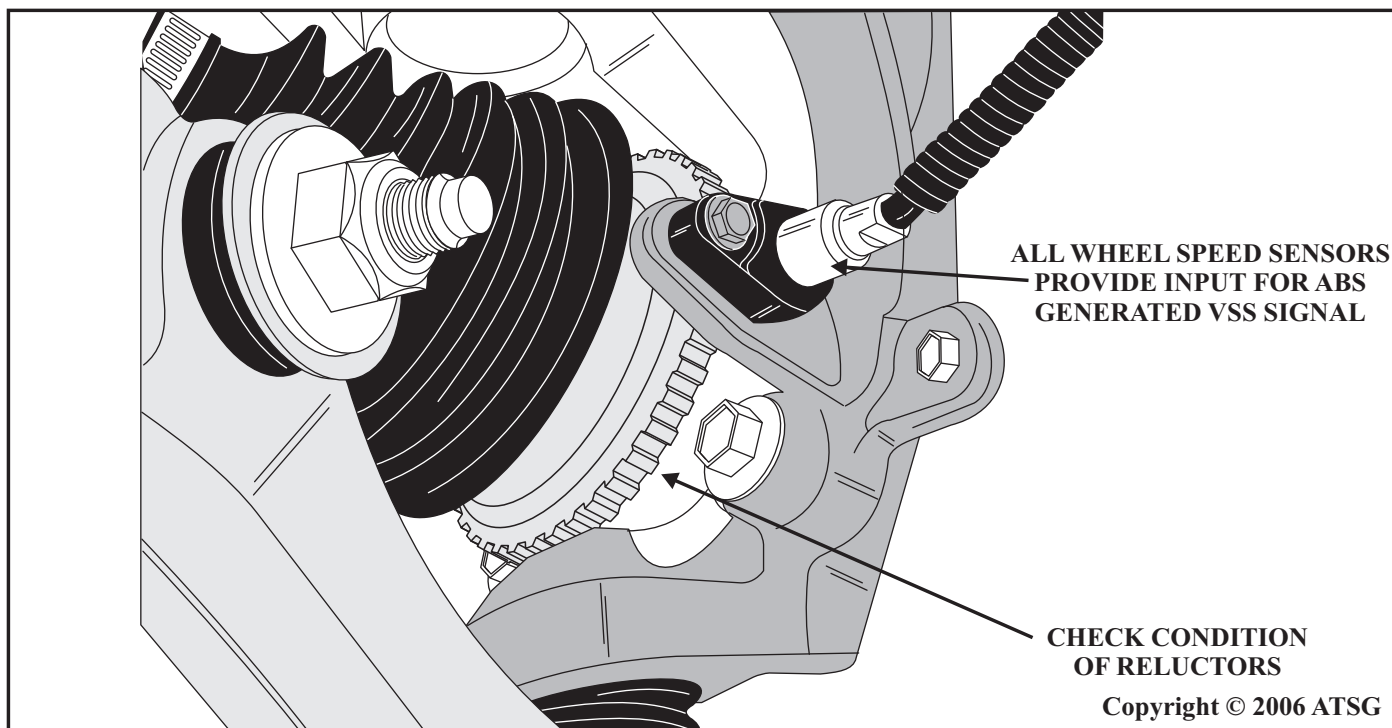

Figure 2
CAUSE: These vehicles obtain the VSS signal from the Antilock Brake Control Module. This means that the raw signal the ABS Module is receiving comes from all four (4) Wheel Speed Sensors (WSS), Refer to Figure 2.